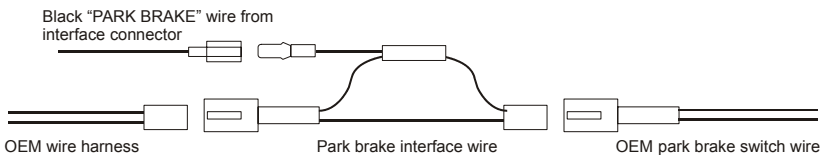

Figure 4.3
- Disconnect the OEM wiring at the park brake, plug it into the matching fitting on the park brake interface wire and plug the connector wire to the park brake switch wiring (Figure 4.3).